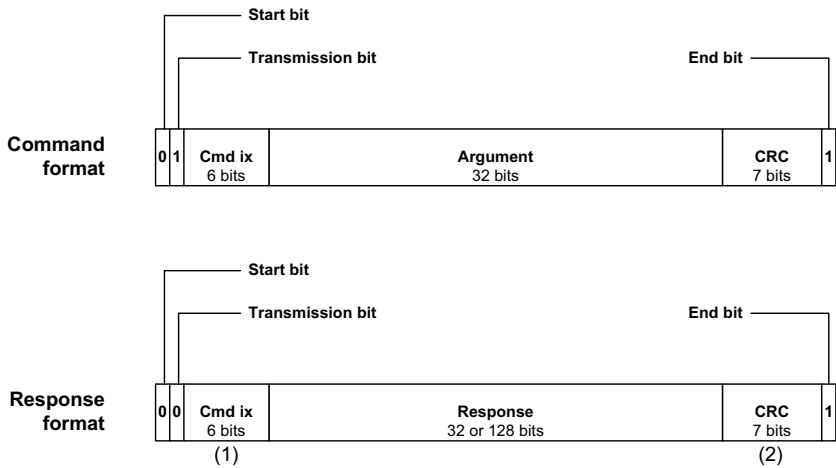

Figure 12-3 SD/MMC command and response formats
- F12-2(1) When no data is being transmitted, data lines are held low.
- F12-2(2) Data block is preceded by a start bit ('0'); an end bit ('1') follows the CRC.
- F12-2(3) The CRC is the 16-bit CCITT CRC.
- F12-2(4) During the busy signaling following a write, DAT0 only is held low.
- F12-2(5) See Figure 12-3 for description of the command format.
- F12-2(6) See Figure 12-3 for description of the command format.